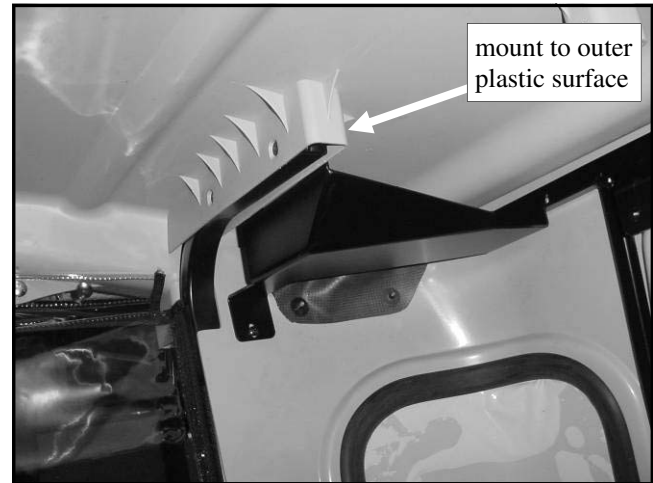

Fig. 2.2 (view from right side)
2.2 Per fig. 2.2, position the top rear of the side frame assembly so the large mounting bracket is up against the outside surface of the plastic roof mount as shown.